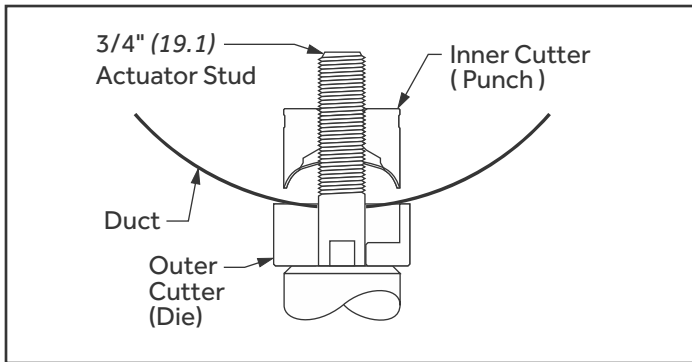

Fig. 32: 60mm Hydraulic Punch Configuration
3. 60mm Punch: Slide the 60mm die (for 2" (50.8) test port) onto the 3/4" (19.1) actuator stud with the open end of the die facing away from the actuator. Insert the 3/4" (19.1) actuator stud into the 3/4" (19.1) hole. From inside the duct, thread the matching 60mm punch onto the 3/4" (19.1) actuator stud with the cutting surfaces of the punch toward the duct. Continue threading the punch by hand until the die, duct, and punch are snug. Operate the hydraulic actuator to draw the punch through the duct material. Remove the punch and die. (Fig. 32)